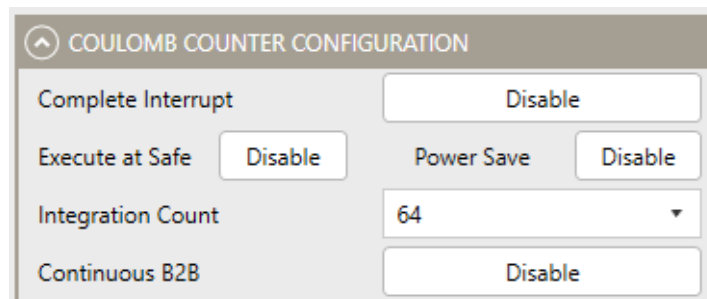

Figure 18: Coulomb Counting Configuration
14. Configure the Coulomb counting parameters (see Figure 18).